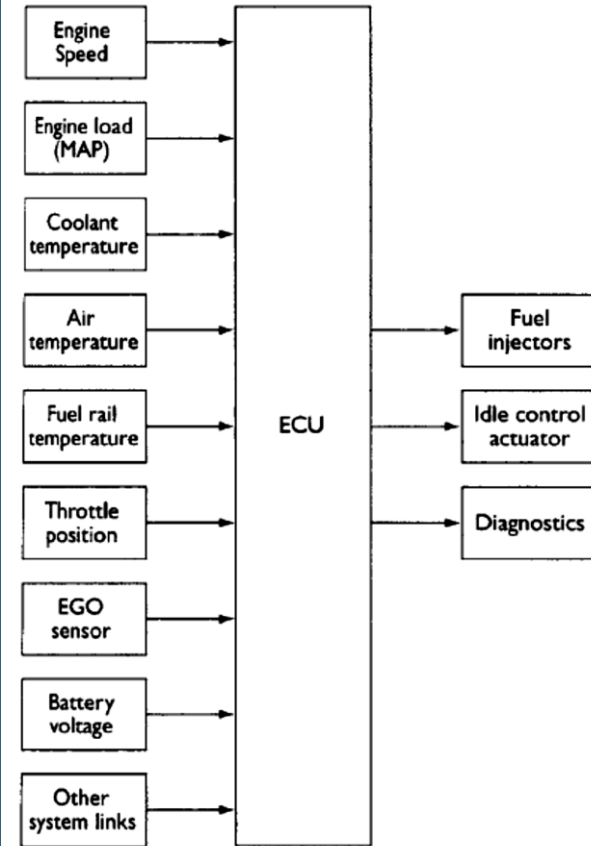

Figure 9.21 Block diagram of inputs and outputs common to most fuel injection systems
- Figure 9.21 shows a block diagram of inputs and outputs common to most fuel injection systems.